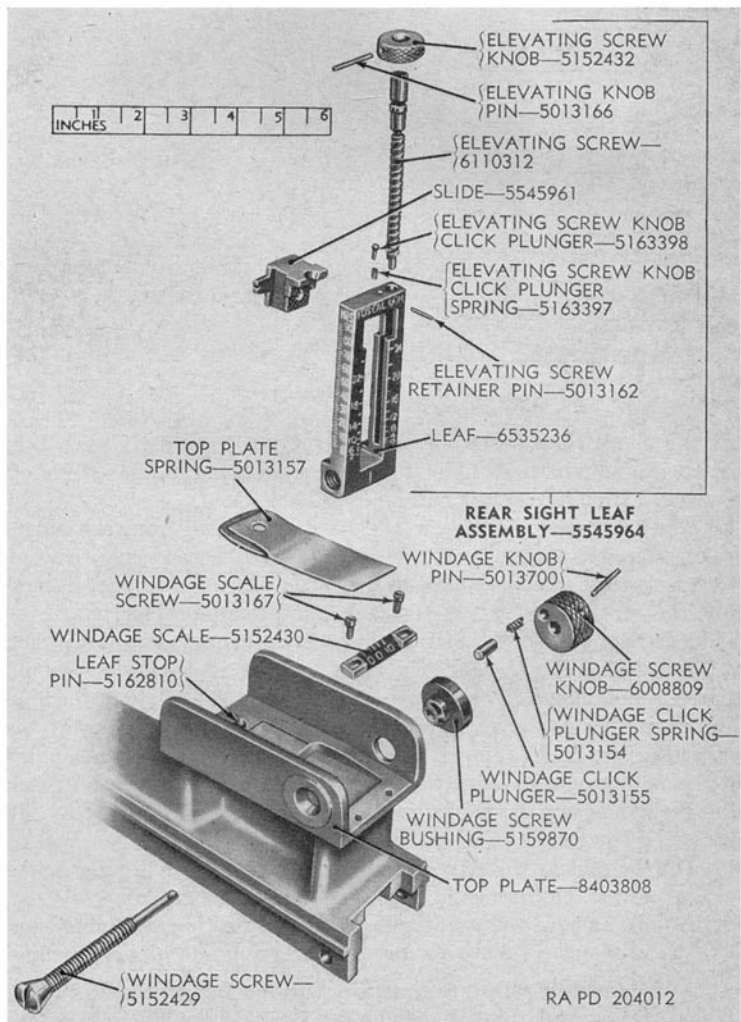

Figure 30. Rear sight group—exploded view.
- (a) Remove staking over ends of rear sight windage knob pin and drift out pin (fig. 30). Remove rear sight windage knob, click plunger, and click plunger spring.
- (2) Disassemble rear sight leaf assembly as described in (a) through (d) below.
- (a) Remove staking and drive out rear sight elevating screw retaining pin (fig. 30).
- (b) Withdraw rear sight elevating screw (fig. 30).
(c) Remove rear sight slide from rear of leaf (fig. 30).
(d) Remove rear sight elevating screw knob, click plunger, and click plunger spring (fig. 30).